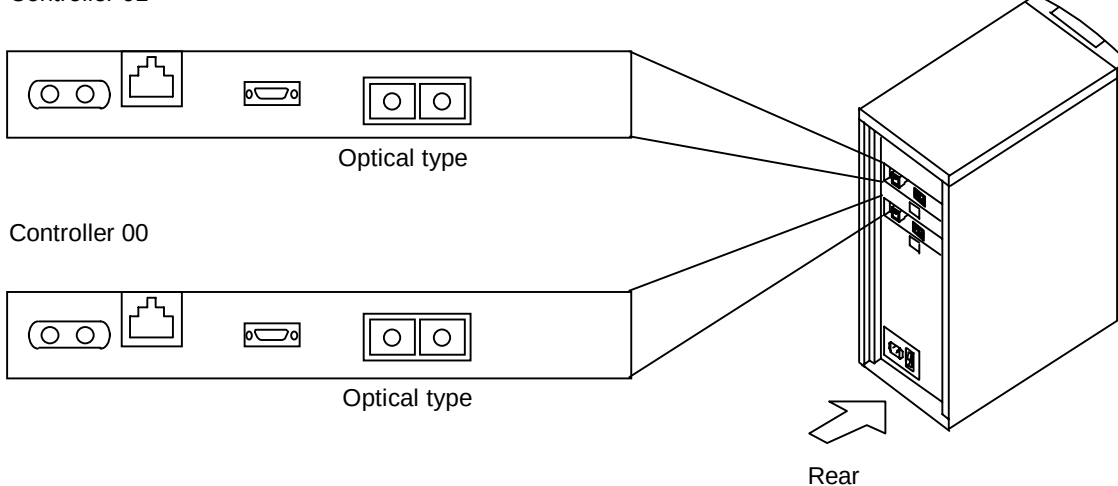

Figure 9.1 Fibre Connector Layout
9. Replacing I/F ADAPTER ASSY (See Figure 9.1, 9.2, 9.3.)